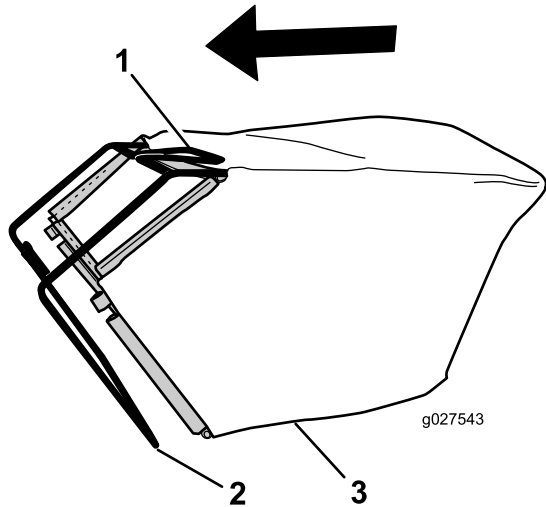

Figure 6
1. Slip the grass bag over the frame as shown in Figure 6.
Note: Do not slip the bag over the handle (Figure 6).